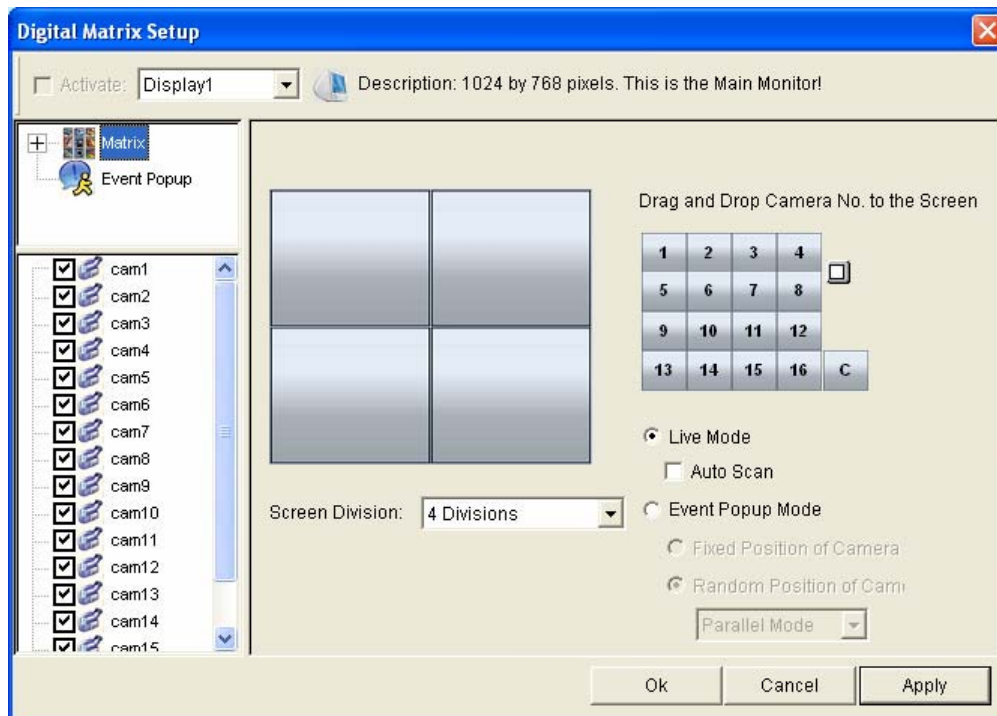

Figure 3-48
9. In the upper-left column, click the **Matrix** icon and return to Figure 3-48.
4. After above settings, click the **Matrix** icon and return to Figure 3-48.
4. Click the **Matrix** icon and return to Figure 3-48. Ensure the **Live Mode** option is selected.